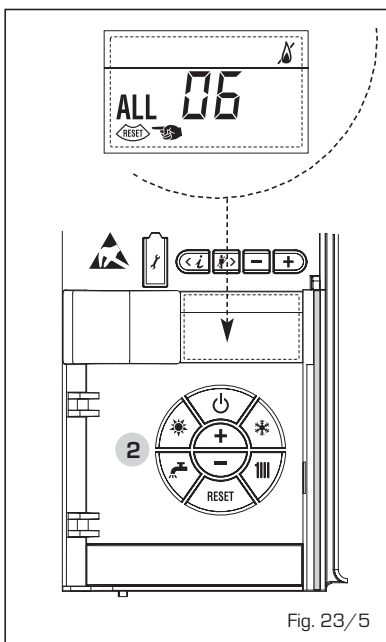

Fig. 23/5
- **SAFETY THERMOSTAT OR LIMIT THERMOSTAT ANOMALY ALARM 07** (fig. 23/6)